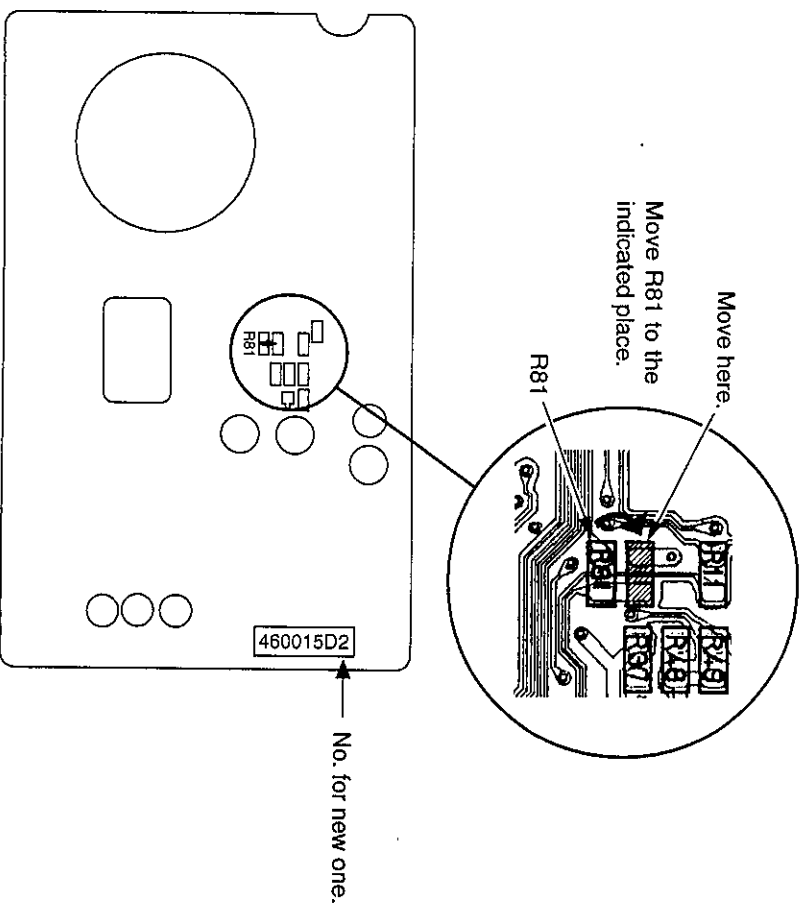

Fig. 1.2 Modification on New Mechanism P.C.B. Assy (C3)
(2) Use the former type one as it is. (However, you need to modify the new Mechanism P.C.B. Ass'y (C3).)	Replace with the new one (CB00667A), since the former type one is not supplied. Further, to use with the former type Main P.C.B. Ass'y (M3), change the location of the chip resistor R81 on the Mechanism P.C.B. Ass'y (C3) as shown in Fig. 1.2 on the next page.